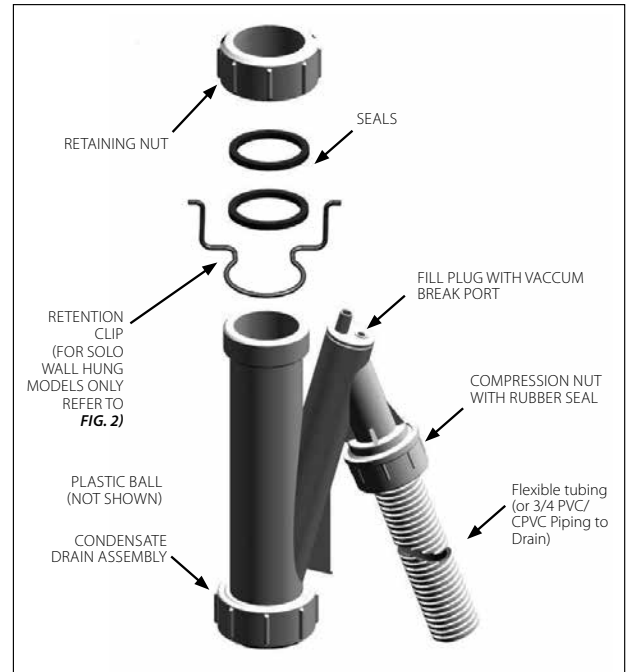
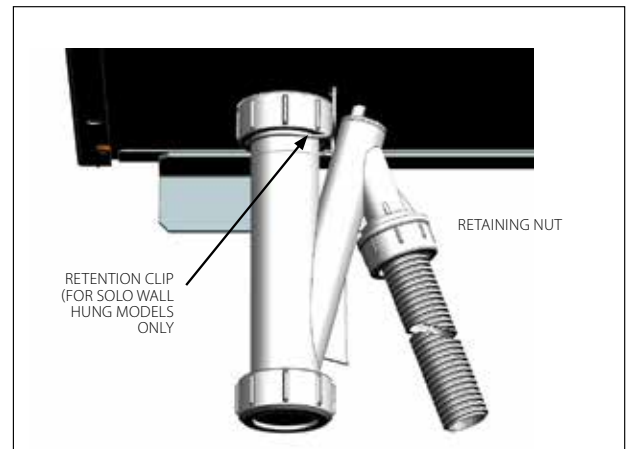

Fig. 1 - Condensate Drain Assembly
Fig. 2 - Condensate Retention Clip -
1. Ensure condensate drain assembly is firmly secured to bottom of the unit. See Fig. 1 on the right. Ensure the retention clip is secure. See Fig. 2 (Solo Models only).